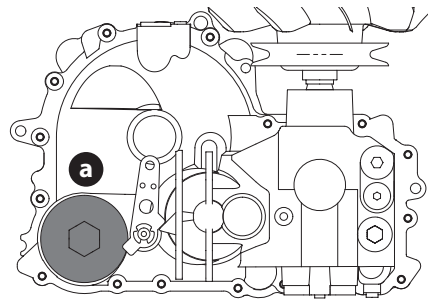

Fig. 46
2. Place a suitable container under the oil filter cover (a) on the transmission. Remove the oil filter cover from the transmission to drain the oil (Fig. 46). Remove and discard the O-ring.
4. Replace new filter and fit new O-ring onto filter cover (a) (Fig. 46).